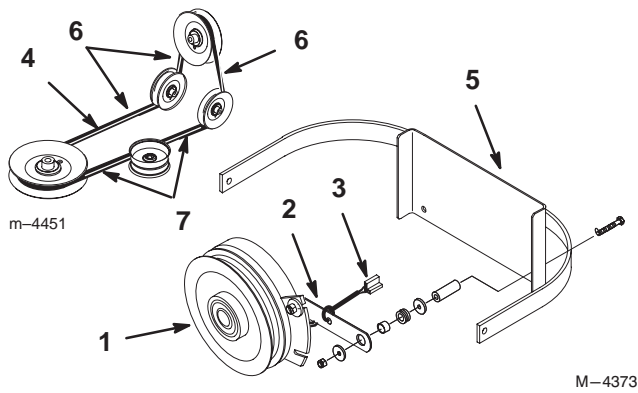

Figure 55
2. Remove the clutch retaining strap from machine frame and unplug clutch terminal from wire harness (Fig. 55).
3. Remove PTO drive belt from rear idler arm and front idler pulley assembly. Remove the PTO drive belt (Fig. 55).
4. Place new drive belt over clutch, around rear idler pulley, installed into rear idler arm assembly, installed into front idler pulley assembly and onto top center pulley (Fig. 55).
Important Check the amount of twist in belt between pulleys. Make sure it is only what is specified in figure 55.
5. Install clutch retaining strap and plug clutch terminal into main wire harness (Fig. 55).